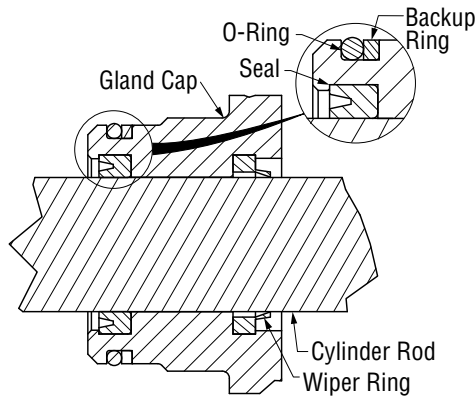

Figure 5-41, Gland Cap Seal
4. Install the seals and wipers in the gland cap. Note the direction of the seals. The cupped side or O-ring side of the seal should be facing the piston. (Figure 5-41)